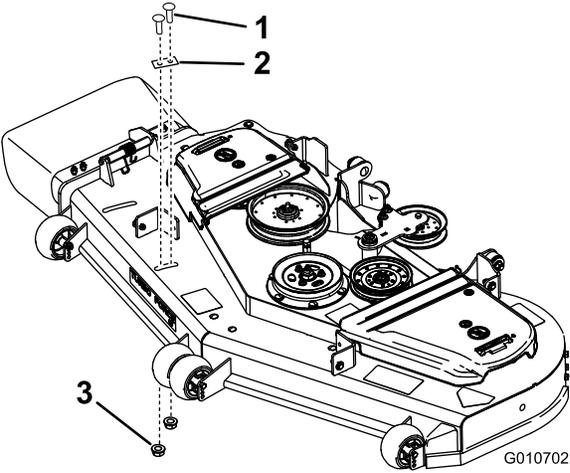

Figure 8
3. If you have the slot shown in Figure 8, install the cover plate using 2 carriage bolts (3/8 x 1 inch) and 2 large flange nuts (3/8 inch).